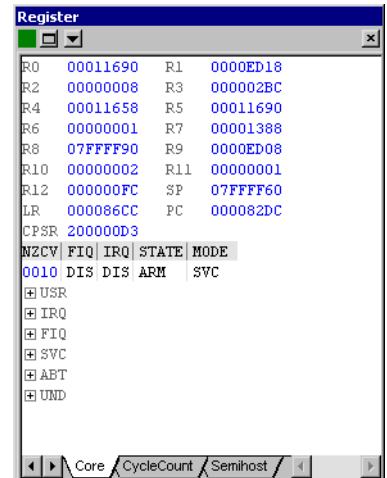

Figure 6-1 Register pane
8. The contents of the Register pane are updated to show the program status as the target stops, shown in Figure 6-1.